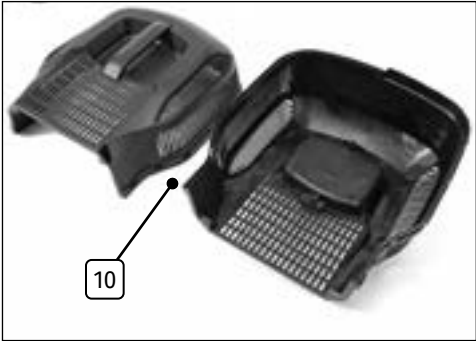

Fig. 6
6.5 Assembling Grass Collection Box (Fig.6 – 8)